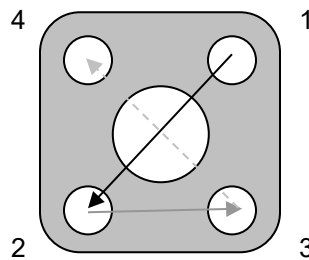

Figure 1
- 3.5 If using a flanged VRV, check to ensure that the fastener threads are clean. As the fasteners are installed, they should be equally tightened in increments to ensure proper alignment and even gasket compression. See Figure 1. As a general rule, the increments should be hand tight, then one third of required torque, then two-thirds, then the complete torque. The fasteners should not be tightened in a circular, or rotational, pattern as this may distort the gasket and result in uneven sealing. A criss-cross, or star, pattern should be used. Once the fasteners are fully tightened, a circular pattern can be used to check the torques.